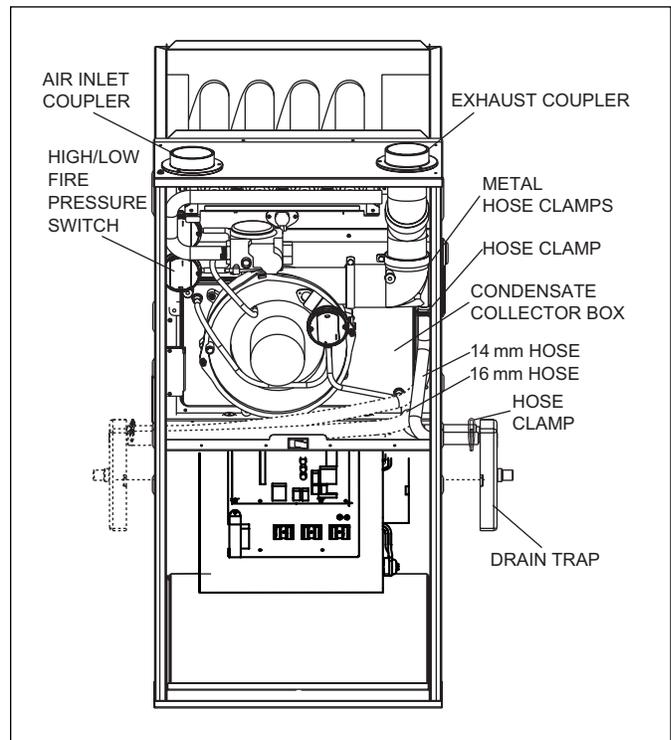

Figure 15 Upflow installation, top venting
#### Top venting (see Fig. 15)
5. Connect  $\Phi 16$  mm hose between condensate collector box and drain trap and connect  $\Phi 14$  mm hose between inducer drain port and drain trap. (see Fig. 15).